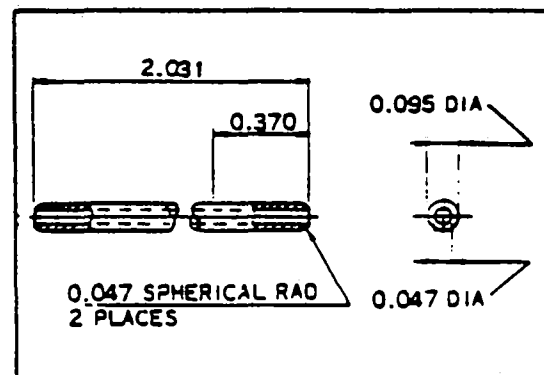

Figure 8-22. Needle
13. Insert Scintilla 11-7073 Needle (Figure 8-22) thru small hole of grom-